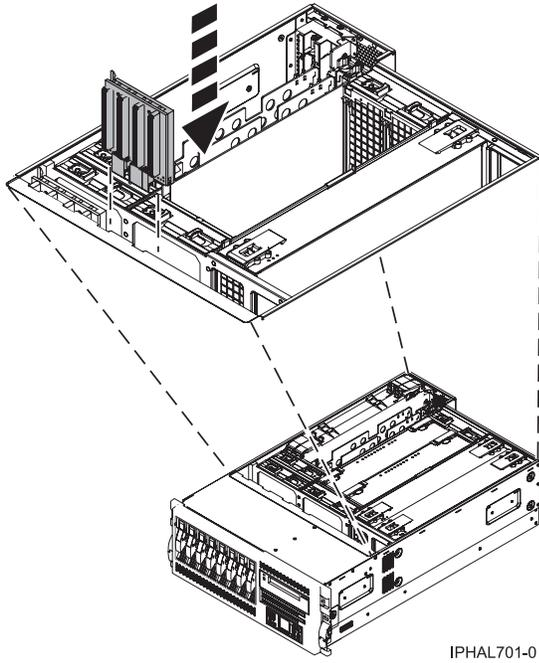

Figure 121. Replacing a disk-drive backplane in a rack-mounted system unit
4. Tip the disk-drive backplane forward onto the frame hooks, then firmly press the disk-drive backplane into the connector until you feel the latch tabs lock into place, as shown in Figure 121 on page 123 or Figure 122 on page 123.